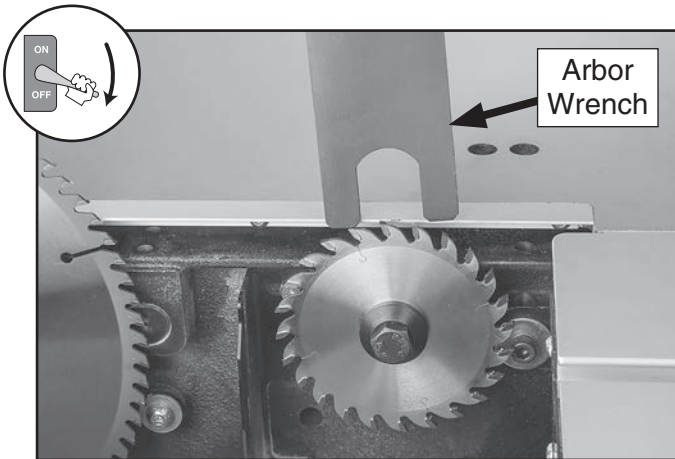

Figure 87. Inserting arbor wrench behind scoring blade to prevent blade from spinning.
- Slide arbor wrench behind scoring blade onto flats of arbor (see **Figure 87**) to prevent blade from spinning.